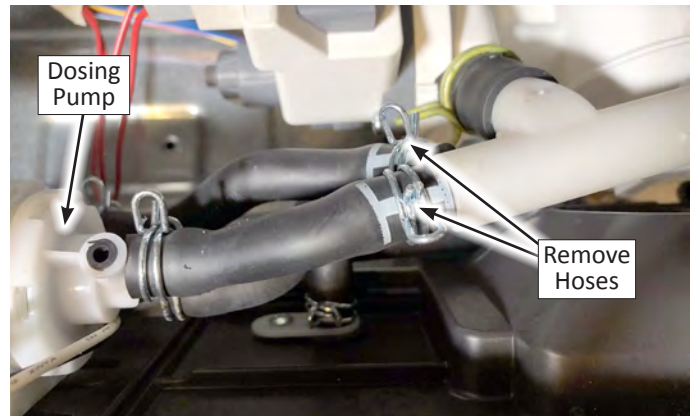

Figure 3
10. Using pliers, remove the hose clamps from the dosing-to-drain pump hoses as shown in Figure 3. Remove hoses and remove the Bulk Dispense Assembly.